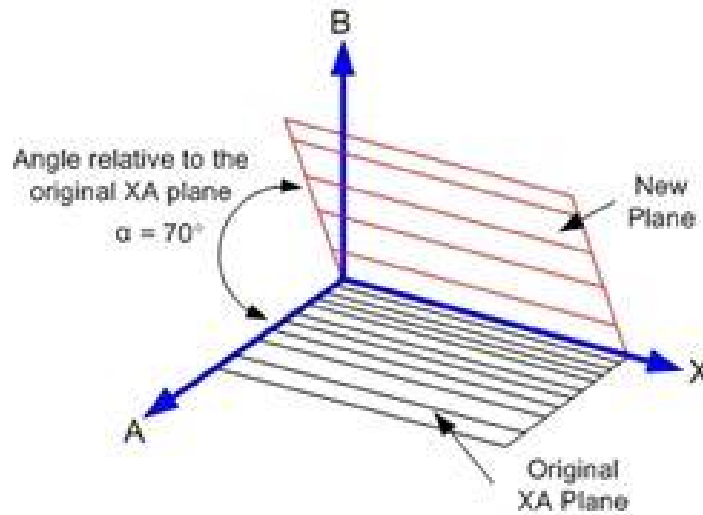
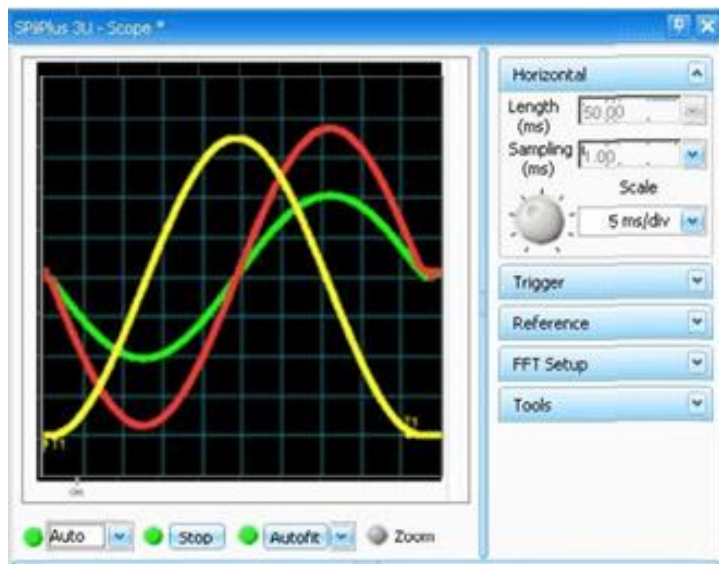

Figure 2-12. PROJECTION of the XA Plane
Figure 2-13. FPOS - PROJECTION Example
1. This example program creates a segmented motion on a new plane (in this example - a circle) on a plane rotated around Axis X by 70° relative to plane AX, as illustrated in Figure 2-12.
Figure 2-13 illustrates the reference position of axes 0, 4, and 5 (corresponding to the XAB coordinates illustrated in Figure 2-12).